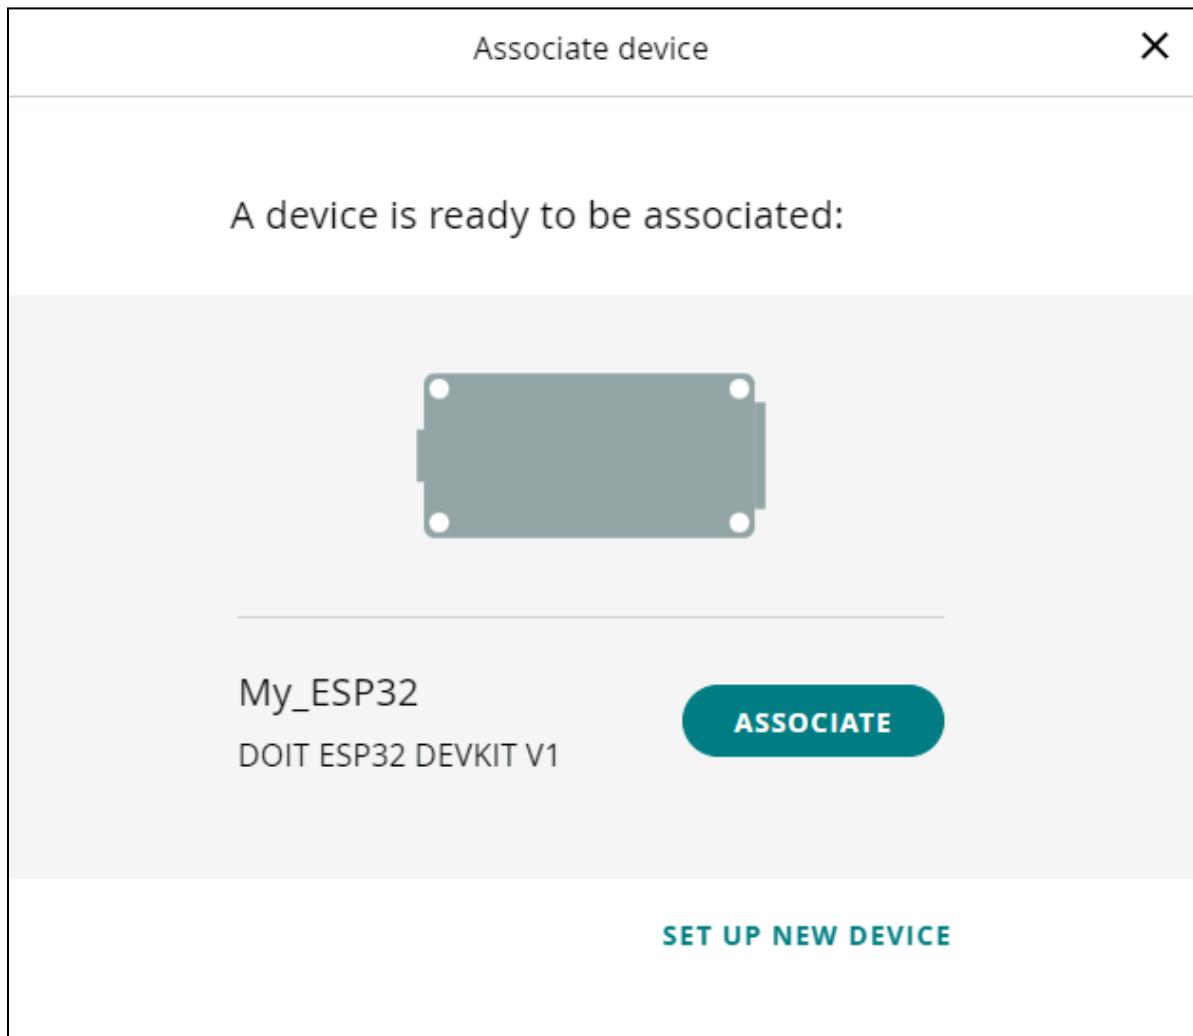

Fig. 14: Associate Device
3. Now, we need to link our device with our Thing. This is done by navigating to the "Device" section. This will open a window, where your ESP32 should be available to select as shown in Fig. 14.